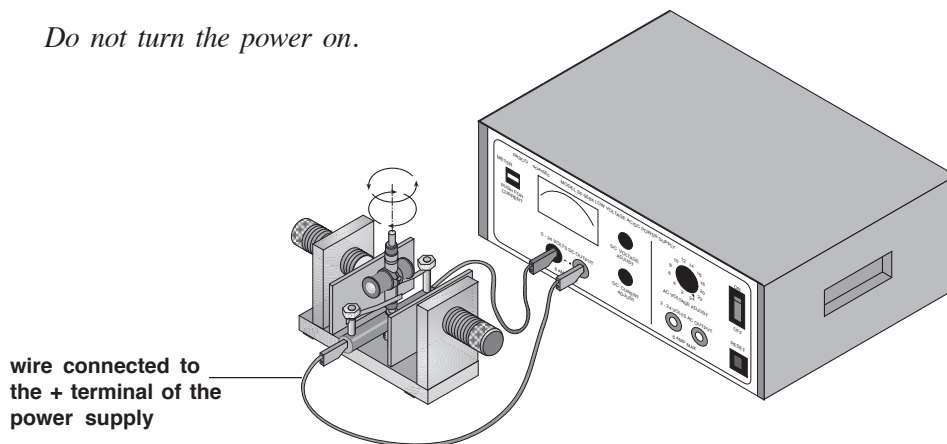

Figure 2. Experimental Setup
above. The painted face of the magnet is its North Pole (north-seeking pole). [You can verify this by hanging the magnet from a thread and observing that the painted face points toward the North (toward the earth's north magnetic pole, located in northern Canada).] With the armature and power supply leads oriented as in Figure 2 and the power turned on, hold the ceramic magnet near the ends of the armature. If both poles of the ceramic magnet attract the armature, the pole with the stronger attraction will be the opposite pole.
- b) Label each end of the armature in Figure 2 according to whether it is the north or south pole of the electromagnet.
- c) Determine the polarity of the Variable Gap Magnet in the same way. Label its poles "N" and "S" in Figure 2.
- ③ Predict the direction the armature will rotate when you release it from the position of Figure 2.